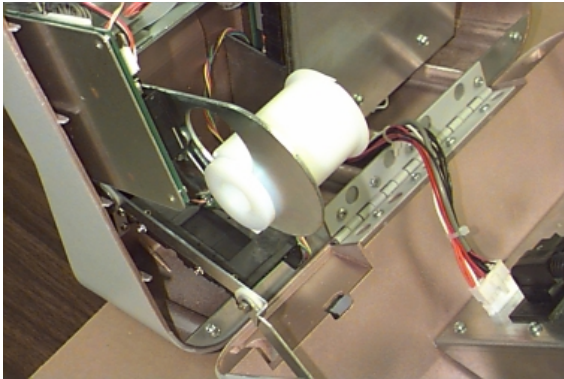
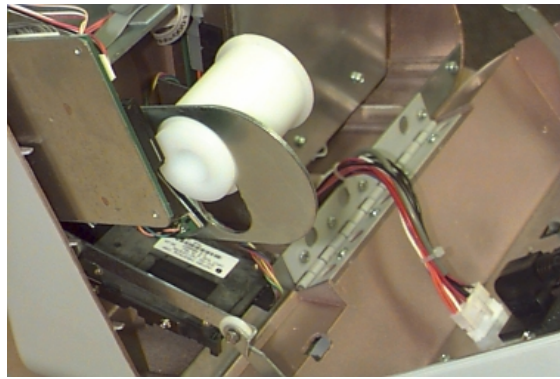

Figure 6-4A. Paper Spool in its normal operating position.
Figure 6-4B The Paper Spool in position for removal.
3. Push the paper spool (or partial roll of paper) from its location in Figure 6-4A to the position shown in Figure 6-4B.